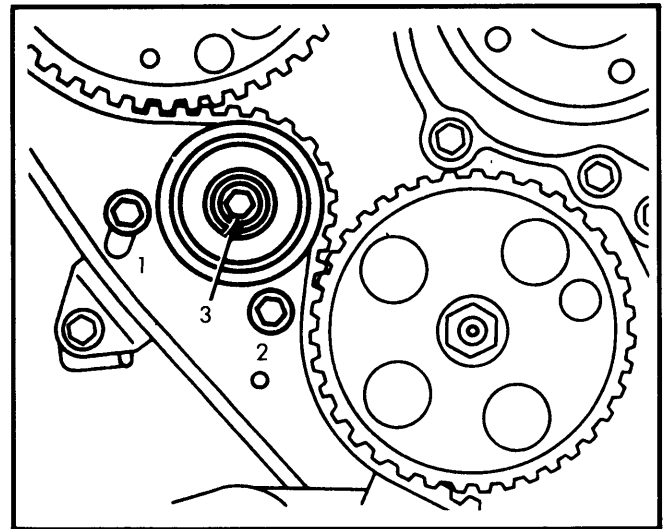

Fig. 11 Tensioner Pulley Bolt Tightening Sequence
4) Loosen tensioner pulley and plate bolts. Concentrate looseness of belt on tensioner, then tighten bolts in sequence shown in Fig. 11. Belt tension should be checked at a point between camshaft gear and injection pump gear using tool (J-29771).